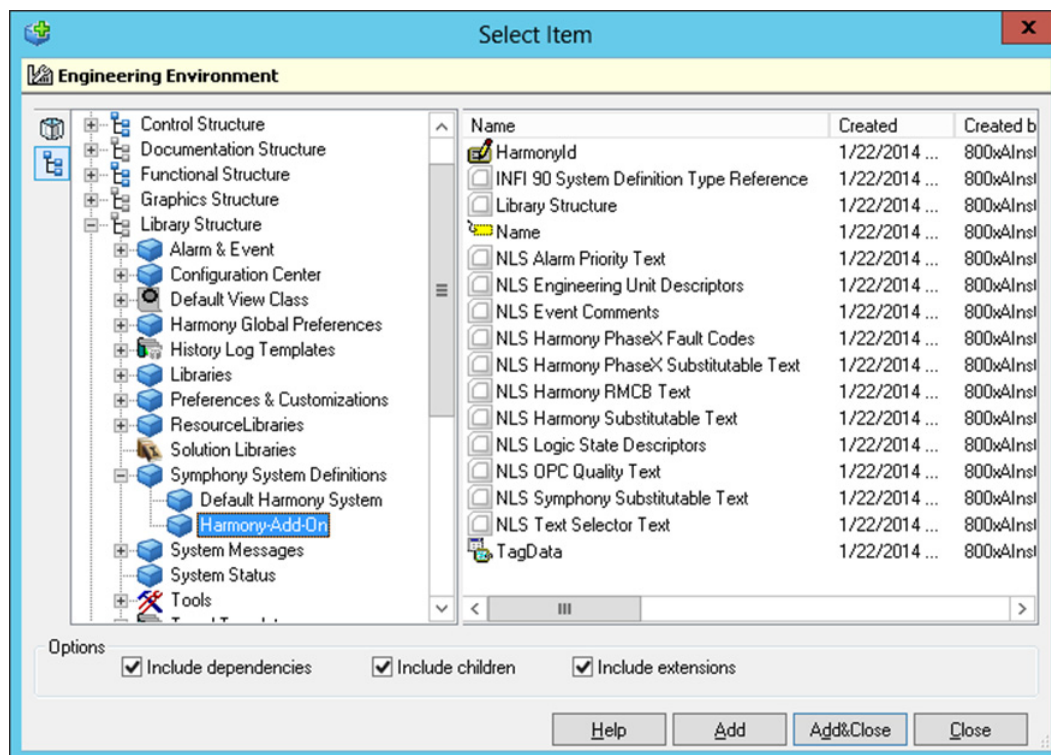

Figure 55. Harmony Add-On
7. Ensure that any newly created or modified **INFI 90** Symphony System Definition Objects are added when selecting Objects to deploy to the Production Environment as shown in Figure 55.